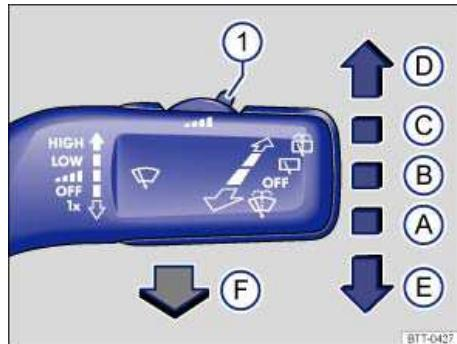

Fig. 90 Operating the front windshield wiper.
| (B) | ... | Intermittent wiping for the windshield. Adjust the interval settings with switch ⇒ fig. 90 (1) (vehicles without rain sensors) or the sensitivity of the rain sensor (vehicles with rain sensors). |
- Press the windshield wiper lever down briefly ⇒ fig. 90 (E) when the ignition is off.
Carefully fold the wiper arms back onto the windshield before driving! Switch the ignition on and press the windshield wiper lever down briefly ⇒ fig. 90 (E). The wiper arms move back to their original position.